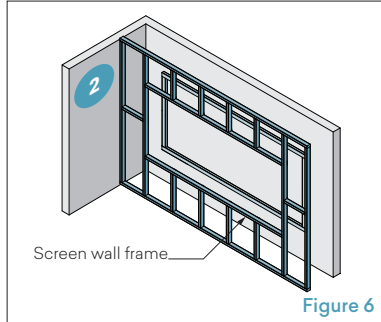

Figure 6
2. Erect a frame for the screen wall and fix this to the floor, ceiling and adjoining walls. (Figure 6)